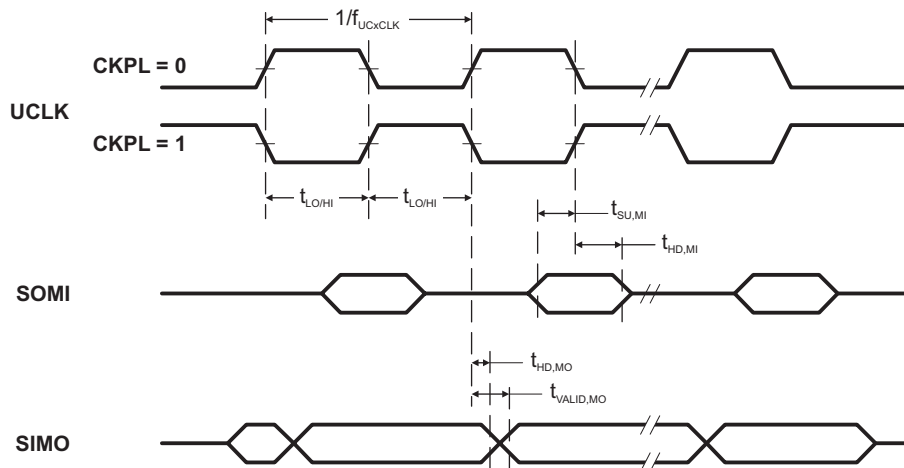

Figure 3. SPI Master Mode, CKPH = 0
(see Note ⁽¹⁾, Figure 3 and)
- (2) Specifies the time to drive the next valid data to the SIMO output after the output changing UCLK clock edge. Refer to the timing diagrams in Figure 3 and .
- (3) Specifies how long data on the SIMO output is valid after the output changing UCLK clock edge. Negative values indicate that the data on the SIMO output can become invalid before the output changing clock edge observed on UCLK. Refer to the timing diagrams in Figure 3 and .